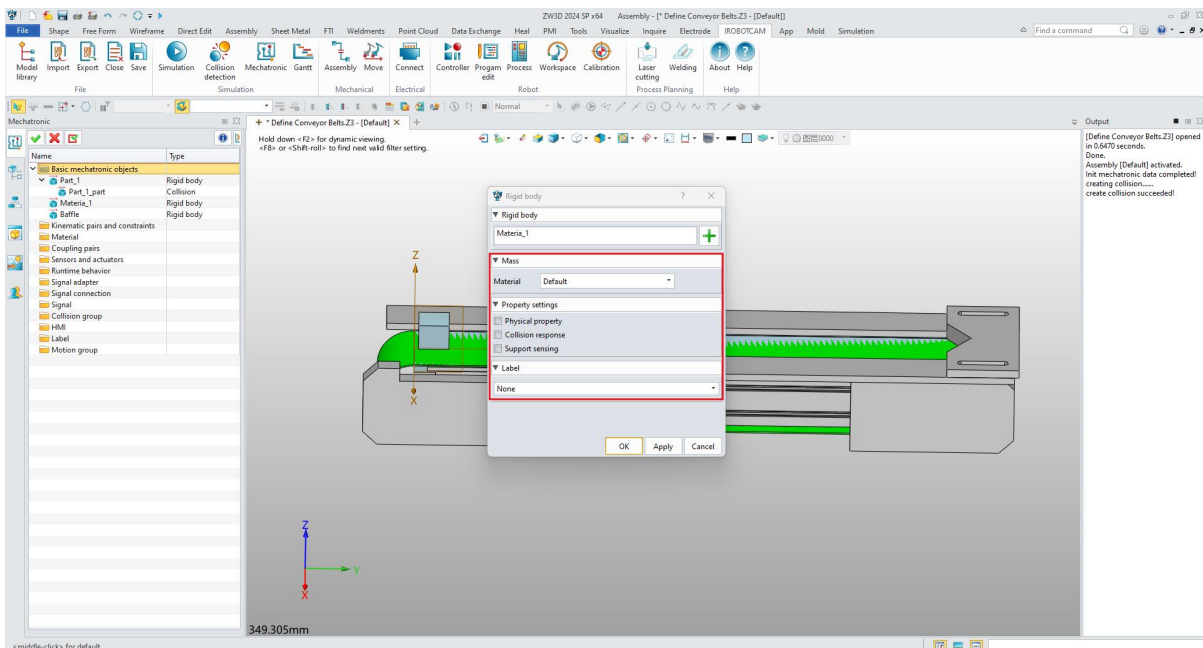

Figure 6-8: Add Rigid Body
- **Material:** With the "+" button, select the material to create it as a rigid body, with a default material, and an property setting of "unchecked". (Figure 6-8)